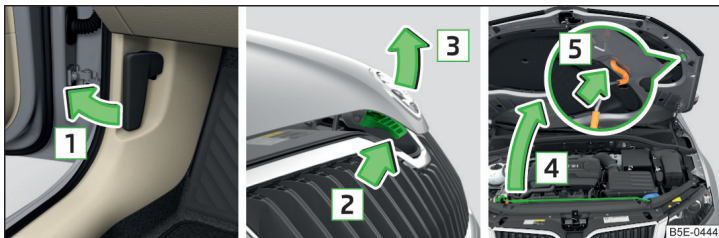

Fig. 196 Open the bonnet
- Pull the release lever underneath the dash panel in the direction of the arrow **1** » Fig. 196.